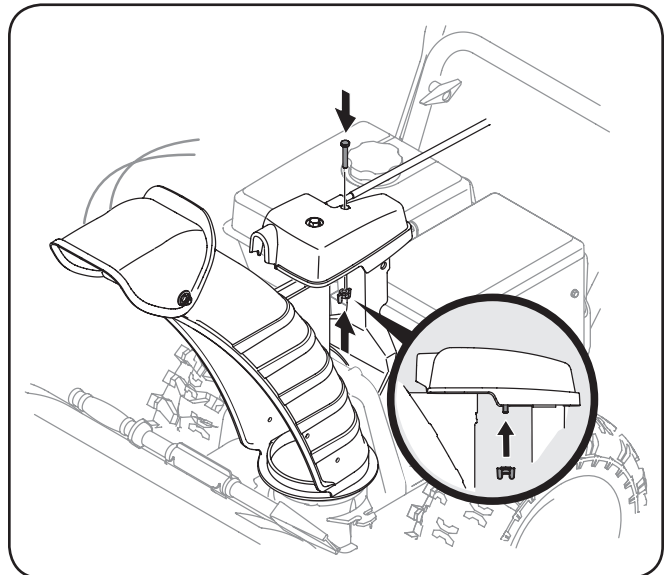

Figure 3-6
4. Finish securing chute control assembly by installing hex bolt and wing nut. See Figure 3-6.